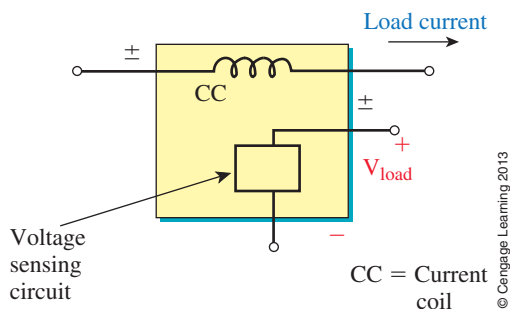
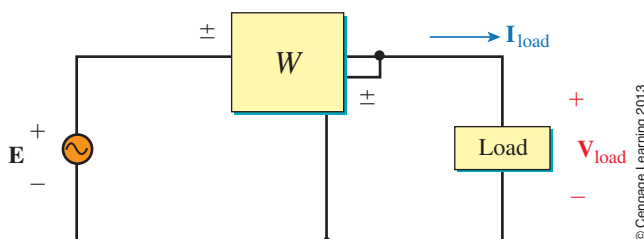

FIGURE 17-24 Conceptual representation of an electronic wattmeter.
FIGURE 17-25 Connection of wattmeter.
You need to be very clear on what angle to use in determining a wattmeter's reading. In terms of Figure 17-24, the angle to use is the angle between the voltage labelled V_{load} and the current labelled *Load current*, using the reference polarity for voltage and the reference direction for current shown. The diagram of Figure 17-25 helps clarify this.
To strengthen your understanding of the concept of power measurement, reexamine Figures 17-1, 17-2, and 17-3. Instantaneous load power is the product of load voltage times load current, and average power is the average of this product. One way to implement power measurement is therefore to create a meter with a current sensing circuit, a voltage sensing circuit, a multiplier circuit, and an averaging circuit. Figure 17-24 shows a simplified symbolic representation of such an instrument. Current is passed through its current coil (CC) to create a magnetic field proportional to the current, and a solid state sensor circuit connected across the load voltage reacts with this field to produce an output voltage proportional to the product of instantaneous voltage and current (i.e., proportional to instantaneous power). An averaging circuit averages this voltage and drives a display to indicate average power. (The scheme used by the meter of Figure 17-23 is actually considerably more sophisticated than this because it measures many things besides power—e.g., it measures VARs, VA, energy, and more. However, the basic idea is conceptually correct.)
Figure 17-25 shows how to connect a wattmeter into a circuit. Load current passes through its current coil circuit, and load voltage is impressed across its voltage sensing circuit. With this connection, the wattmeter computes and displays the product of the magnitude of the load voltage, the magnitude of the load current, and the cosine of the angle between them, that is, $V_{load} \cdot I_{load} \cdot \cos \theta_{load}$ —see Notes. Thus, it measures load power. Note the \pm marking on the terminals.